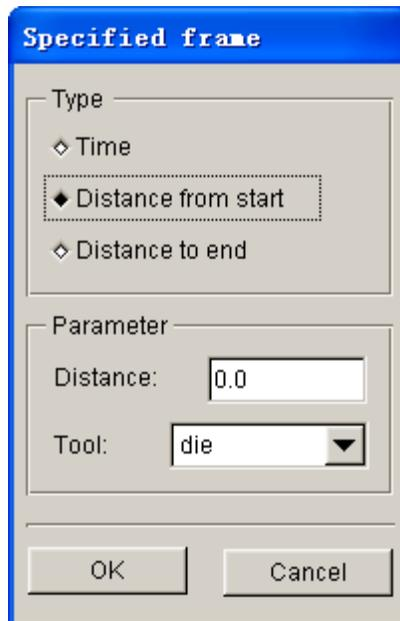

Figure 8.2.88 Define Output Frame by Tool Travel Distance
**DISTANCE FROM START:** Add an output frame by specifying travel distance of the tool. The interface is illustrated in Figure 8.2.88. The user may specify a reference tool in tool pull-down list, following by typing in a value in the DISTANCE input data field. This value is the distance of the tool travel from the beginning of current stage.